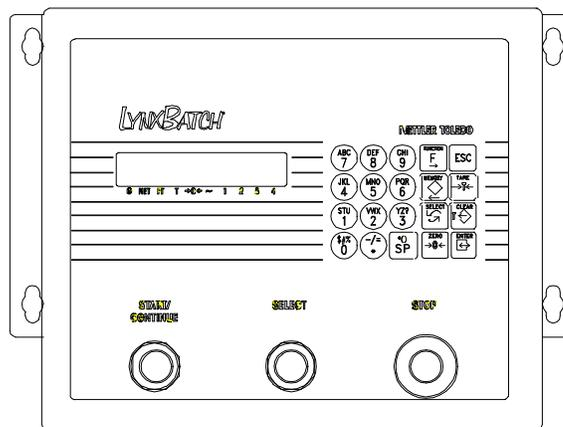

Figure 2-1
2. Mount the brackets using the four stainless steel screws supplied. Refer to Figure 2-1. The slotted holes must protrude beyond the enclosure as shown.